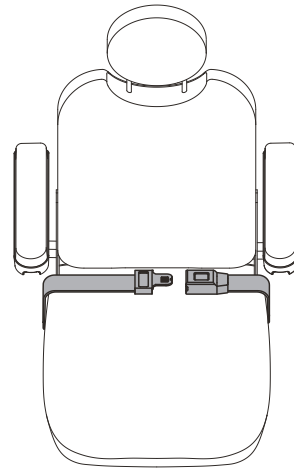

Figure 10. Positioning Belt Adjustment
Your power chair may be equipped with a positioning belt that can be adjusted for operator comfort. **See figure 10.** The positioning belt is designed to support the operator so that he/she does not slide down or forward in the seat. The positioning belt is not designed for use as a restraining device.
1. Once seated, insert the metal tab on one side of the belt into the plastic housing on the opposite side until you hear a click. **See figure 10.**